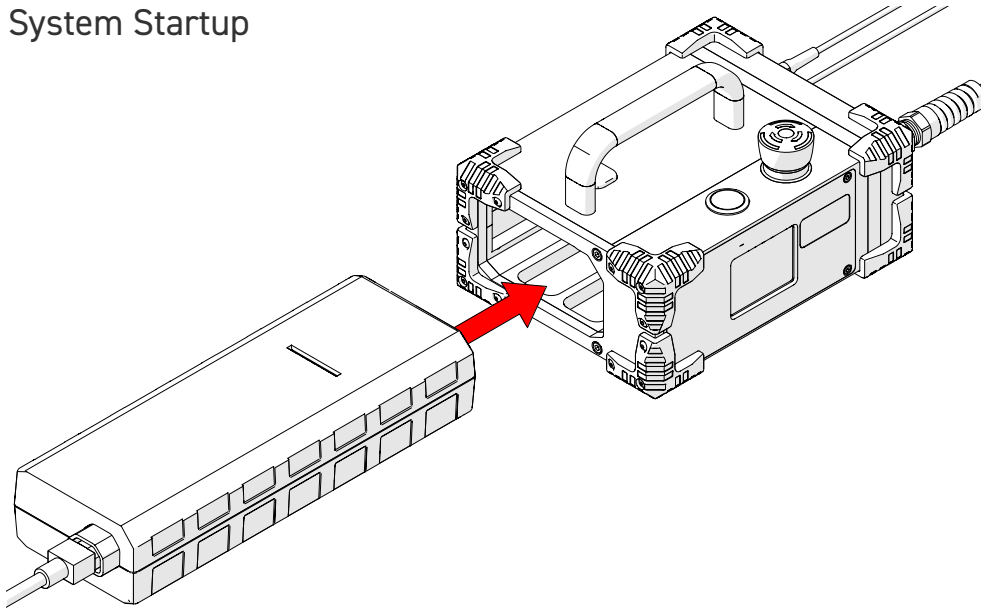

Fig. 202 - Insert power source
1. Insert power source (Fig. 202) into power controller dock.